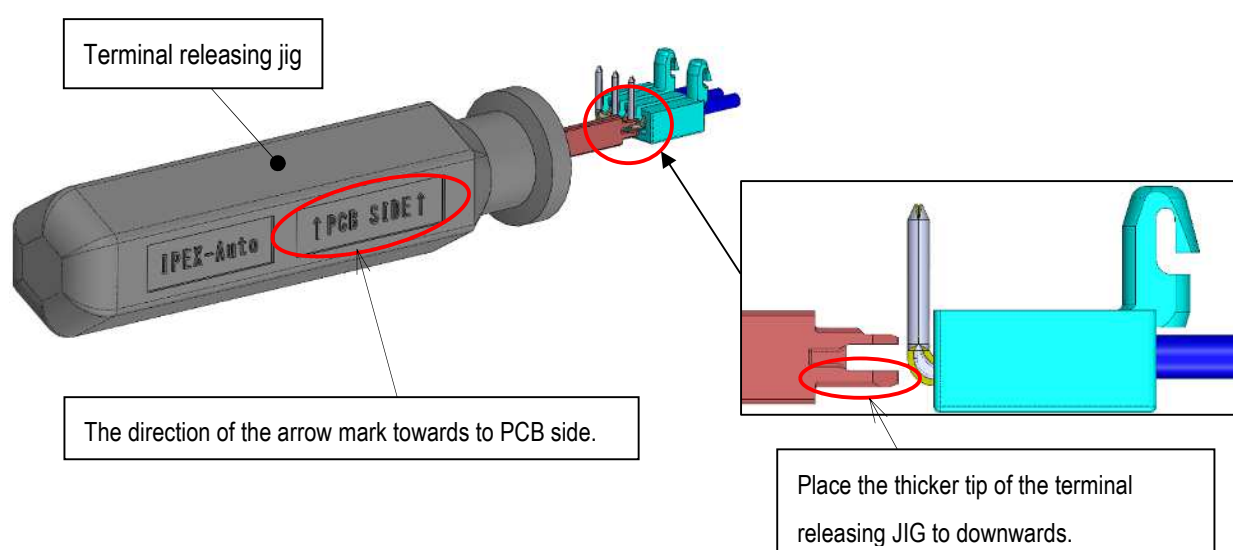

Fig26 Housing and Direction of release
- ① Hold the wire and push in the terminal lightly. Place the terminal releasing jig into the releasing apertures of the housing (see Figs. 26 and 27).